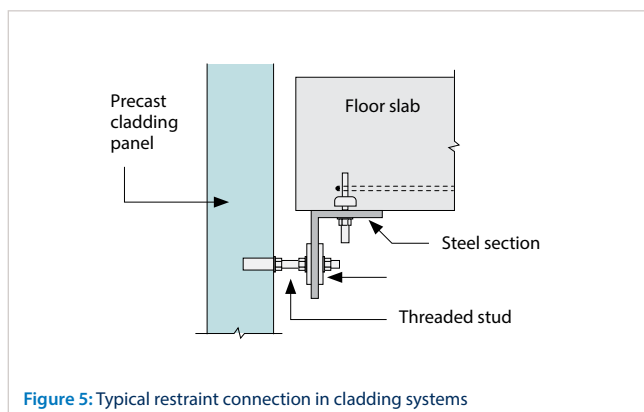

Figure 5: Typical restraint connection in cladding systems
**Restraint** – Restraint fixings are designed to hold panels back to the structure and transfer all horizontal forces (such as wind loading) to the structure. They should be designed to be adjustable to accommodate any differential movement between the structure and the cladding. Tolerances in the main structure and the manufacture of the precast units require particular attention. Four restraints are commonly provided in average sized panels, typically at the corners of the panels (figure 5).